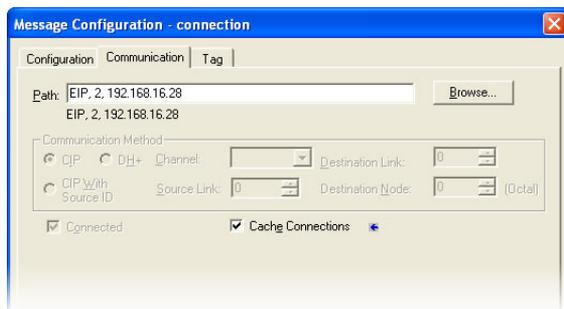

**Figure 102: Selecting the Destination Element**
- iv) For the Destination Element, either directly type "data\_array[50]", or select element #50 in the data\_array tag via the drop-down box (refer to Figure 102). The destination could be any offset in the data\_array tag, as long as the offset plus the Number Of Elements (21) does not exceed the tag's defined size (73).